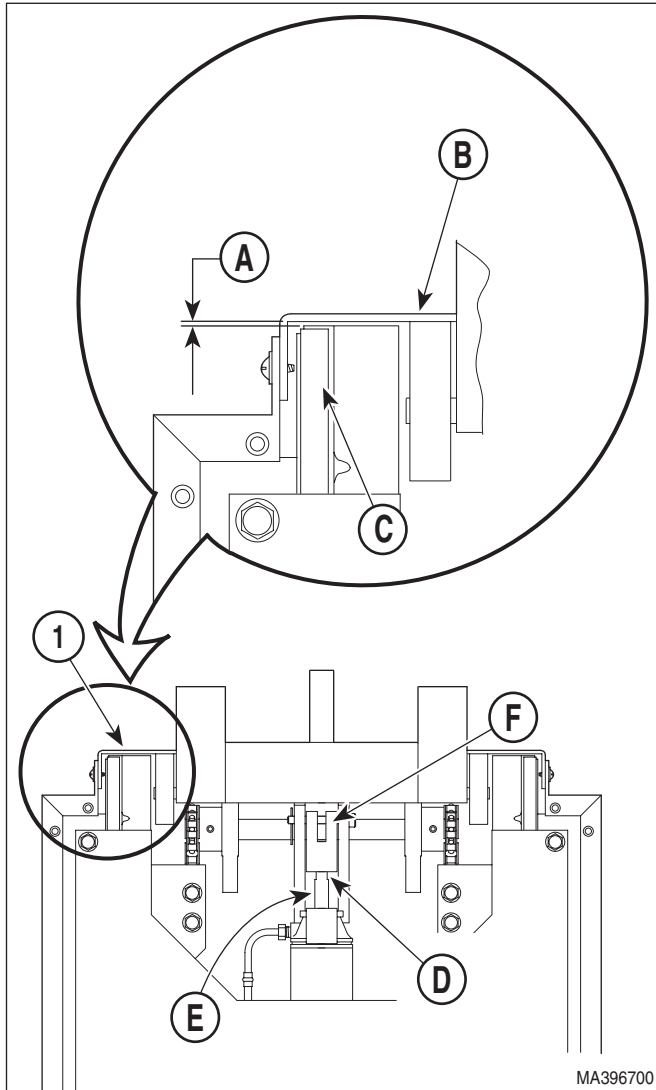

Figure 4-19. Base Cylinder Clevis Adjustment
- (11) Lower BASE DOWN function all the way down.
- (12) See Figure 4-19. If there *is not* a 1/16 to 1/8 inch (1.6 to 3.2 mm) gap (A) between inner member weldment (B) and top of middle slide (C) when the BASE DOWN function is completely lowered (it is especially important that the inner member weldment does not come into contact with top of middle slide), perform steps 13 thru 15. If gap is correct when the BASE DOWN function is completely lowered, go to step 16.